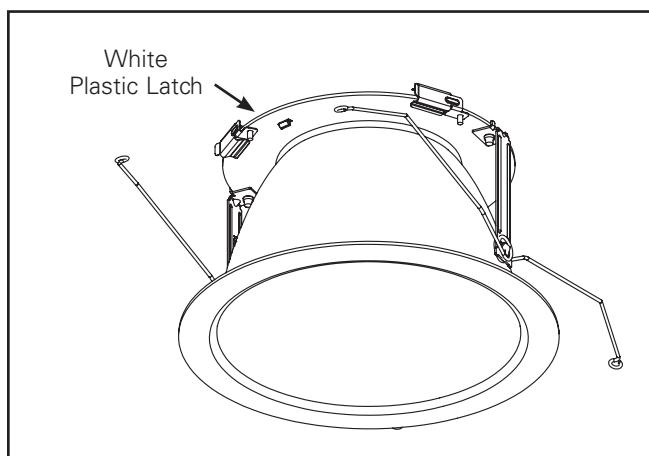
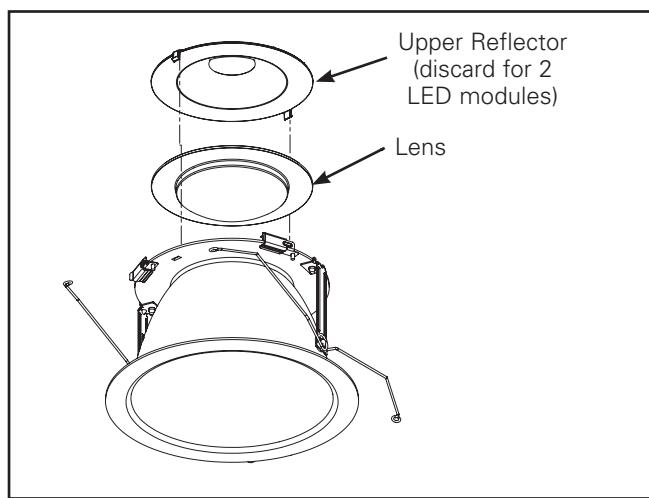

Figure 12
Figure 13
2. If the LED modules has 2 LEDs, gently remove the upper reflector by disengaging the white plastic latches (Figure 12. & Figure 13.) and discard it. Retain the upper reflector on the trim for 1LED modules.